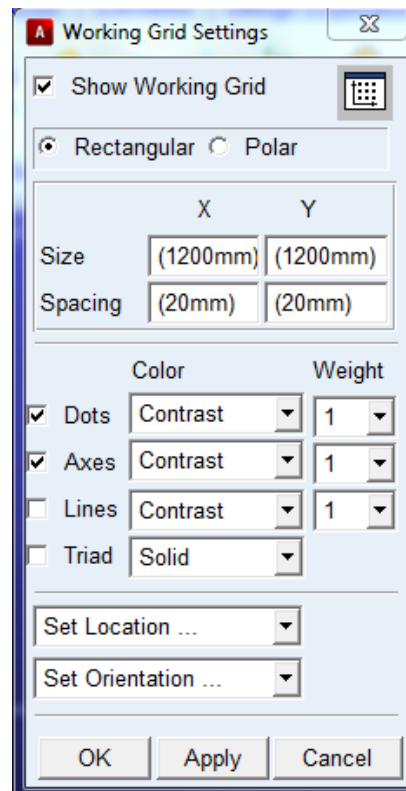

Figure 1.6
The following window appears (Figure1.6)
- “Size” and “Spacing” values (according to Figure 1.6)